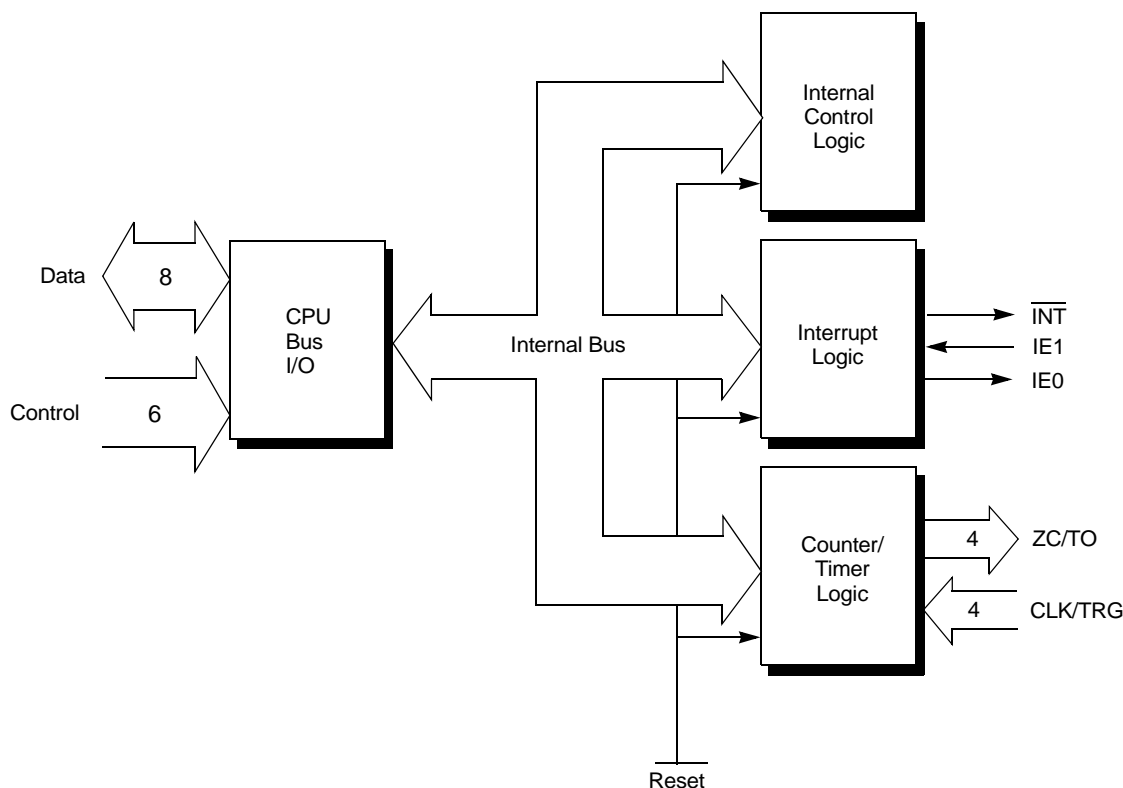

Figure 4. Counter/Timer Block Diagram
**Counter/Timer Logic (CTC) Unit.** This logic unit provides the user with four individual 8-bit counter/timer channels that are compatible with the Z84C30 CTC (see Figure 4). The counter/timers can be programmed by the CPU for a broad range of counting and timing applications. Typical applications include event counting, interrupt and interval timing and serial baud rate clock generation.